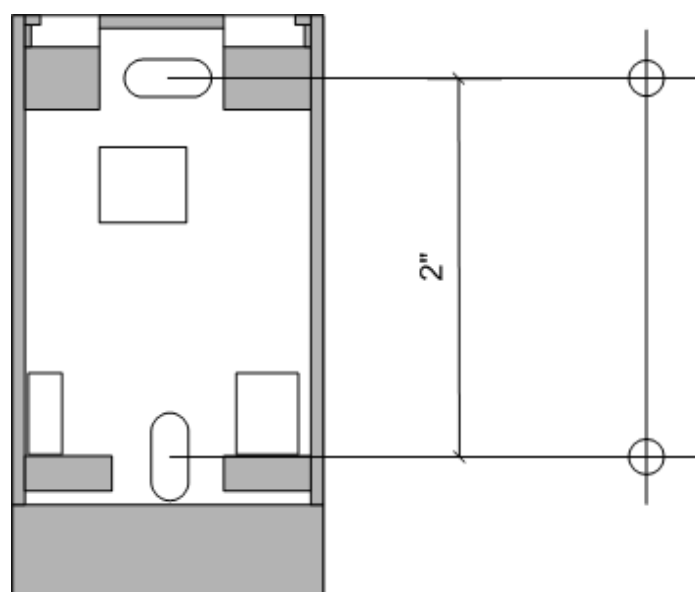

Fig. 1 Wall-mounting bracket
- Use the wall-mounting bracket to mark the screw insertion points on the mounting surface (fig. 1).